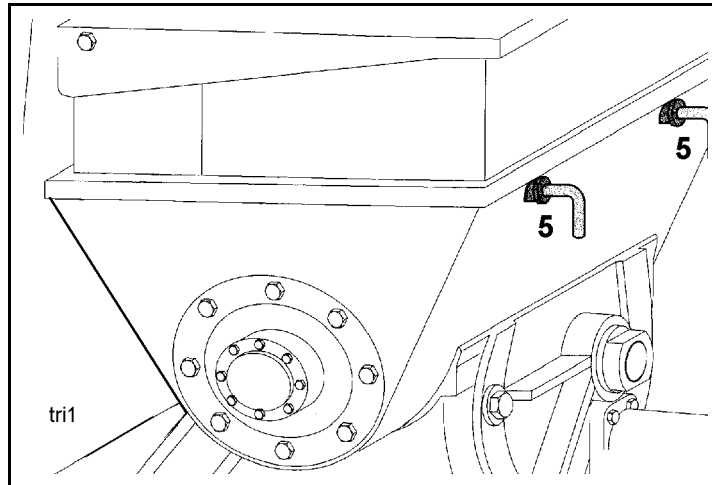

Fig. 48 Concrete filling hopper
- Check the lock on the mesh in the concrete filling hopper (e.g. locking bar 5, (Fig. 48 Concrete filling hopper)).